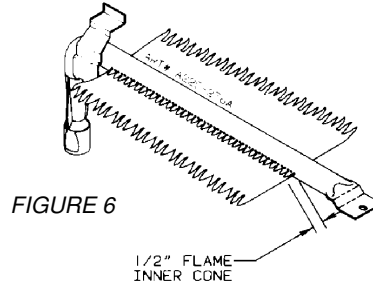

FIGURE 6
- a. The approximate length of the flame of oven burner is a 1/2 inch distinct inner blue flame, figure 6.